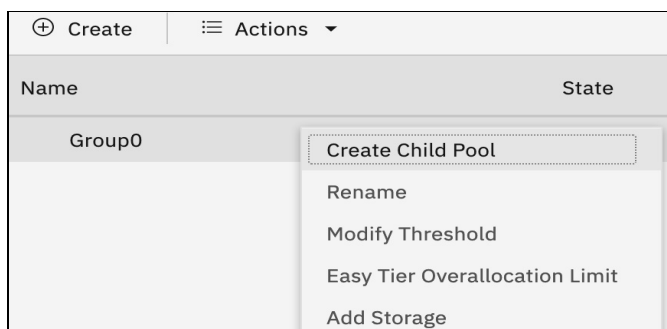

Figure 4-9 Right-click parent pool actions menu
- b. Right-click the parent pool in which you want to create the child pool (see Figure 4-9).